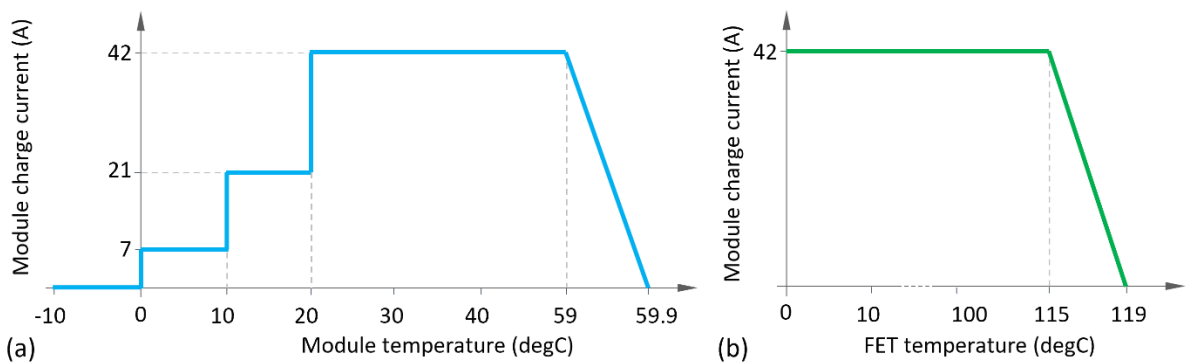

Figure 5: Charge current derating profiles as a function of (a) module and (b) FET temperature.
- ▶ CC phase: The maximum module current is controlled depending on the module and FET temperatures as well as the charging phase (see Figure 5).
In automatic mode, the charger continuously monitors the module and FET temperatures of the etaSTORE batteries. The charger automatically adjusts the charge current to ensure safe operation within the battery's temperature limits. Figure 5 illustrates the implemented charge current derating profiles as a function of temperature.